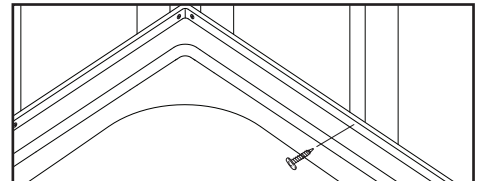

FIGURE 5. Run a screw through bathtub flange at each stud location.
- Once leveled, screw bathtub flange to all studs (Fig 5).